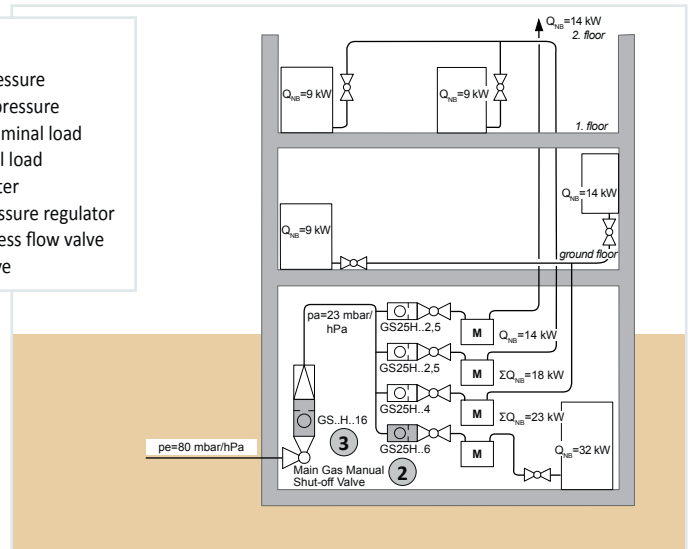

Figure 4: SENTRY GS in a multi-family dwelling (supplied with natural gas)
- See ③ in figure 4
- See ② in figure 4
- Result: ③ in table 1 = GS..16 (GS..H..16...)
- Result: ② in table 1 = GS..6 (GS25HH6...)